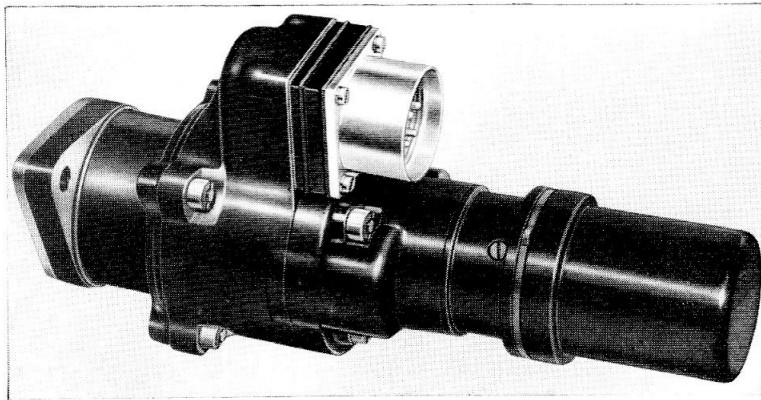

Fig. 1. Type C5524/2 actuator
1. This actuator (*fig. 1*) is generally similar to that described in the main chapter. The rotary movement of the output shaft is limited to 90 deg. by the two internal limit switches.